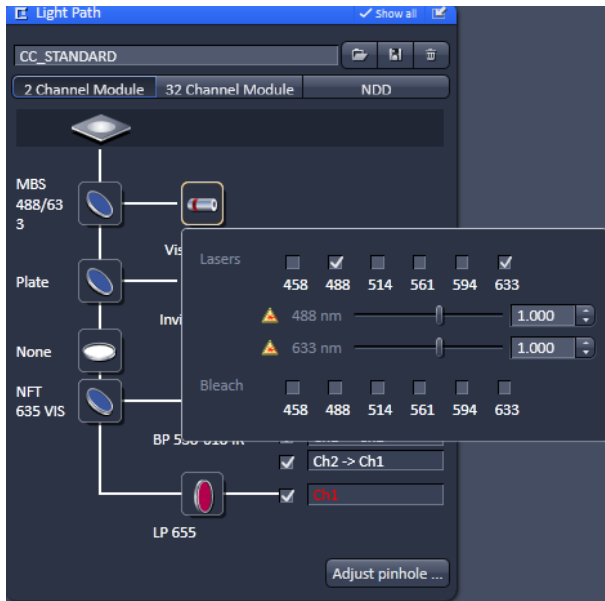

Fig. 240 System Configuration tab - Light Path panel with laser submenu
- Press the **Laser** button to display the laser control expansion submenu (Fig. 240). Alternatively you have access to the **Laser Lines** in the **Acquisition** tab. They provide settings for: